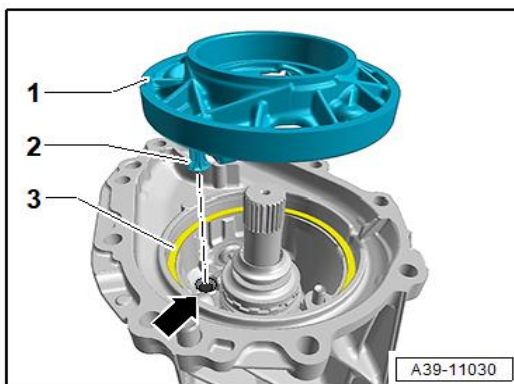

Figure 20. Shim and carrier installation.
14. Insert the shim (Figure 20, position 3).
Insert the gear carrier (Figure 20, position 1) into the housing together with the coupling sleeve. Pay attention that the shock absorber (Figure 20, position 2), and the centering pin is correctly positioned to the housing (Figure 20, arrow).